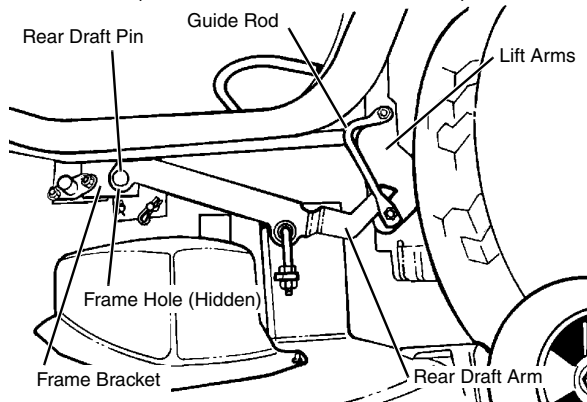

FIG. 7
- Position the deck so the rear draft arms are between the gold colored guide rods and the lift arms on the outboard side. (See FIG. 7)
- Lift the mower deck. Place 50 mm (2 in.) blocks under the R.H. and L.H. rear edges of the deck enabling you to align the holes in the front of the rear draft brackets with the holes in the frame bracket. (See FIG. 7)